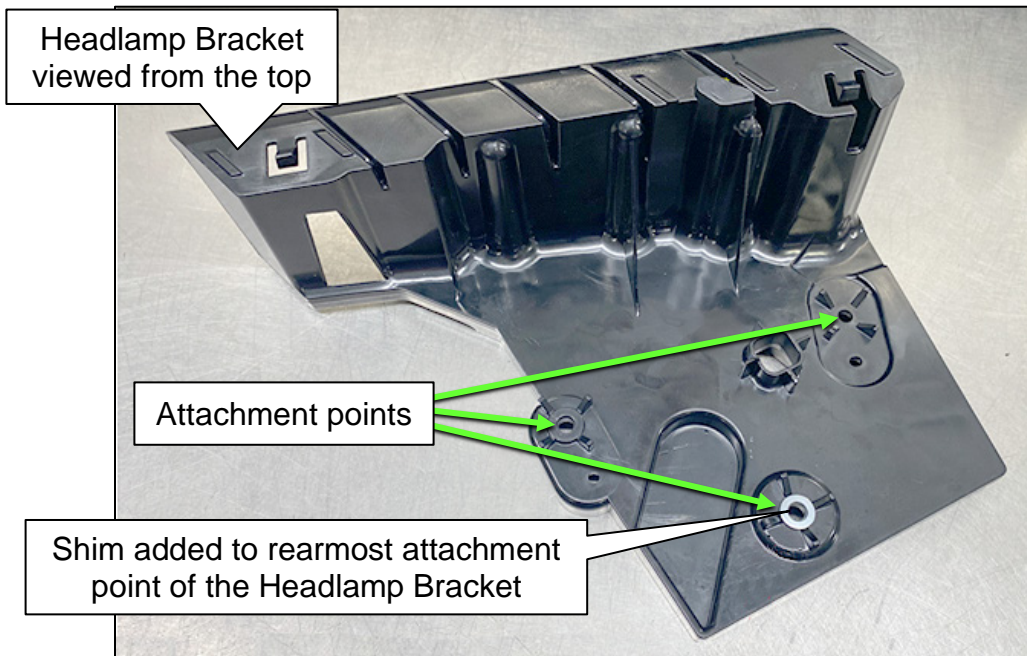

Figure 5
- b. Install the new Headlamp Bracket (Figure 5), and then torque screws as follows: